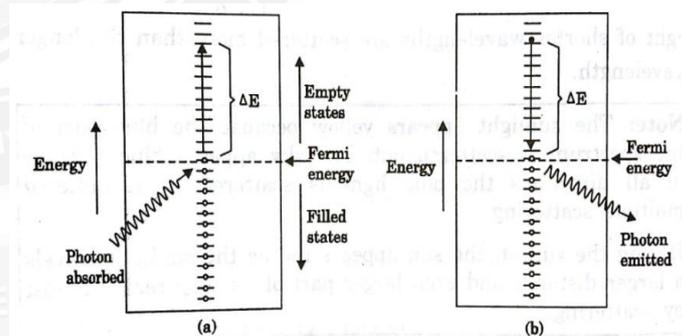

Fig. 4.2 (a) Photon absorption in which an electron is excited into a higher energy unoccupied state
2. An electron transition with emission is shown in figure 4.2 (b).